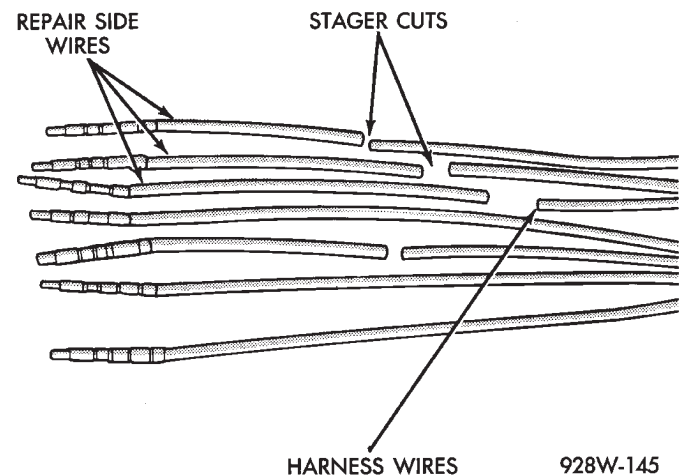

Fig. 17 Stagger Cutting Wires (Typical)
- (1) Disconnect battery.
- (2) Disconnect the connector (that is to be repaired) from its mating half/component.
- (3) Cut off the existing wire connector directly behind the insulator. Remove six inches of tape from the harness.
- (4) Stagger cut all wires on the harness side at 1/2 inch intervals (Fig. 17).
- (5) Remove 1 inch of insulation from each wire on the harness side.
- (6) Stagger cut the matching wires on the repair connector assembly in the opposite order as was done on the harness side of the repair. Allow extra length for soldered connections. Check that the overall length is the same as the original (Fig. 17).